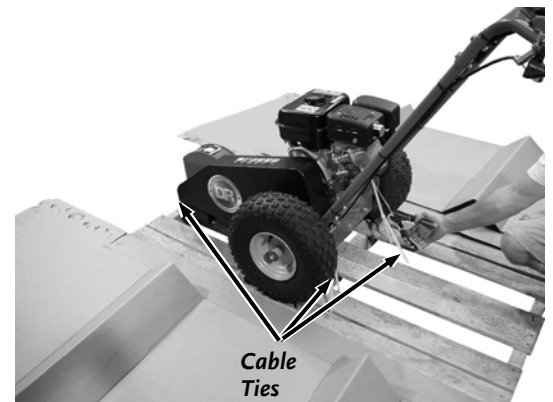

Figure 4
4. Cut all Plastic Straps that are securing the Stump Grinder to the Pallet, unlock the Brake by pressing it and roll the Stump Grinder from the Pallet (**Figure 4**).